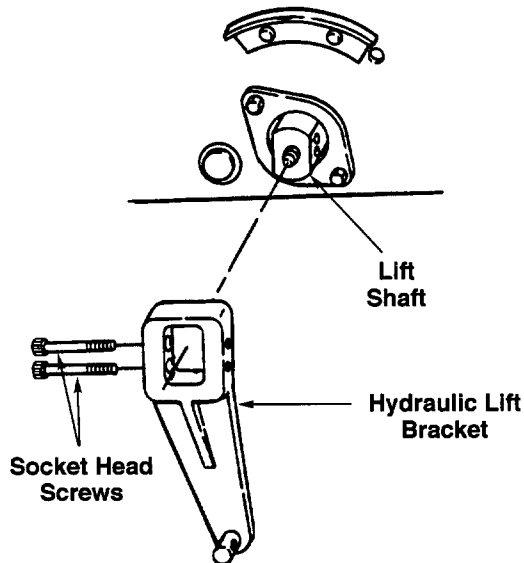

Figure 11
- a. Slide the hydraulic lift bracket assembly (1-6) onto the end of the lift shaft, in the position shown in Figure 11.
- b. Secure the lift bracket with the two socket head cap screws (2-6) as shown in Figure 11.